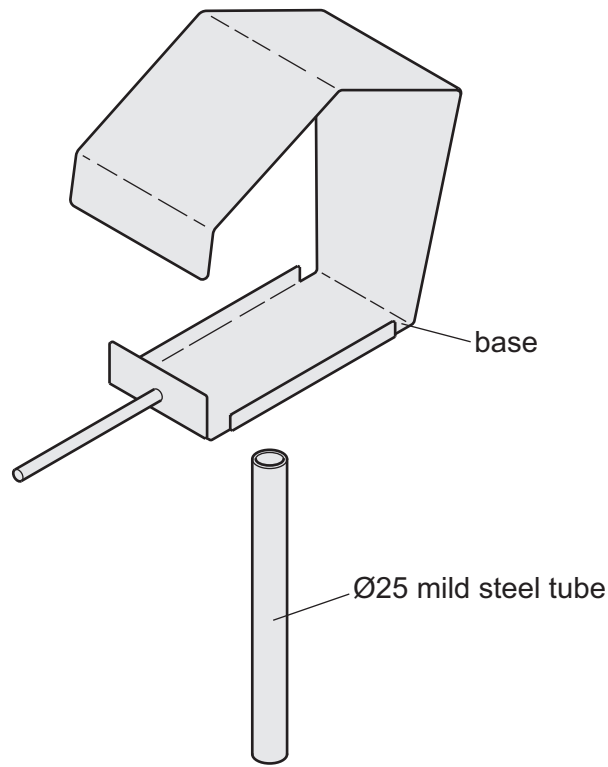

Fig. 12.8
- (e) Fig. 12.8 shows part of a $\text{Ø}25$ mild steel tube that will be fixed into the ground and joined to the base of the bird feeder.